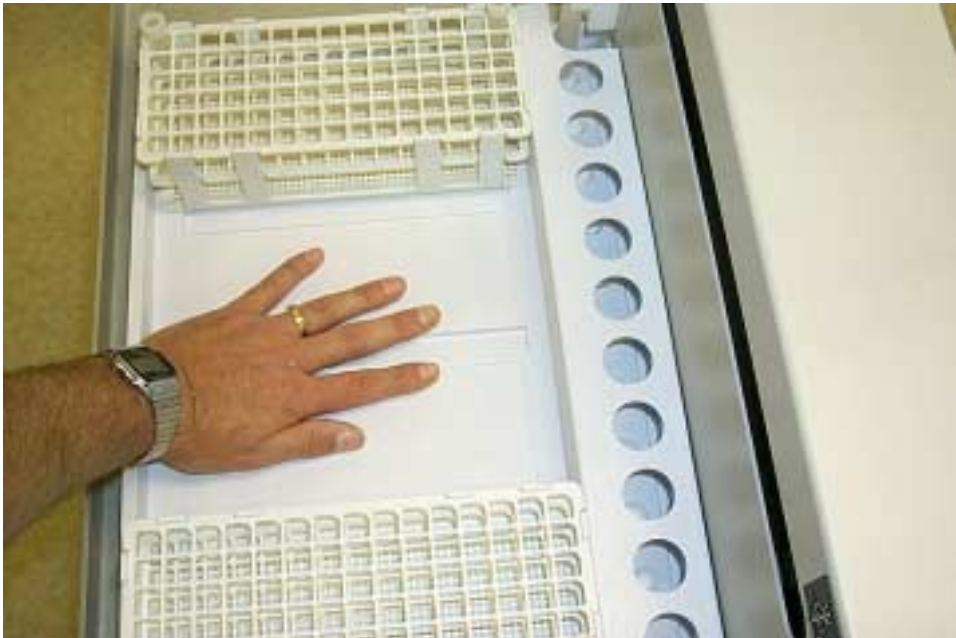

Figure 1-2
10. Move the back of the unit to the edge of the table or cart (**make sure that you have someone hold the tray section (as shown in figure 1-2) so that the autosampler will not fall**) because the back that is hanging of the edge of the table or cart is heavy. Or you may move it to the corner it will balance on the corner on the cart but beware the unit could fall if bumped.